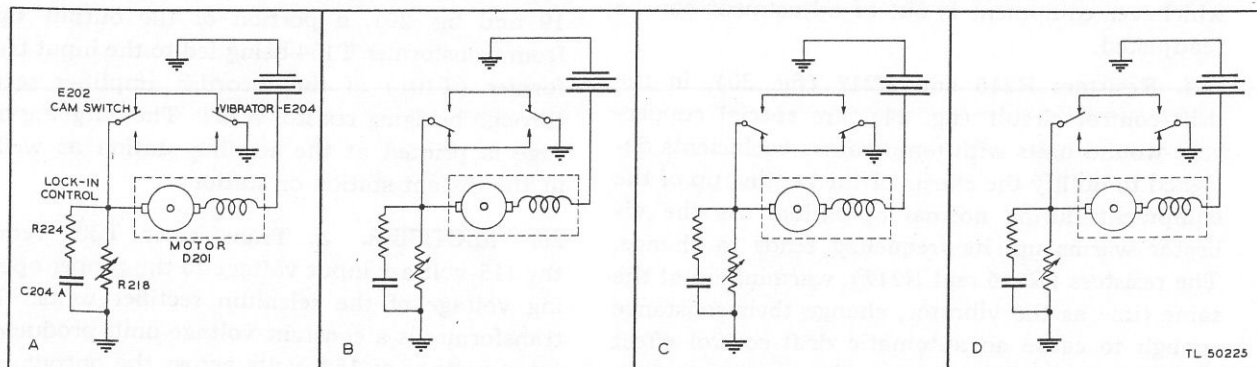

Figure 25—Progressive action of cam-switch and vibrator contacts
d. Figure 25 shows the four main positions of the cam-switch contacts and vibrator contacts. When the motor is running at the correct speed of